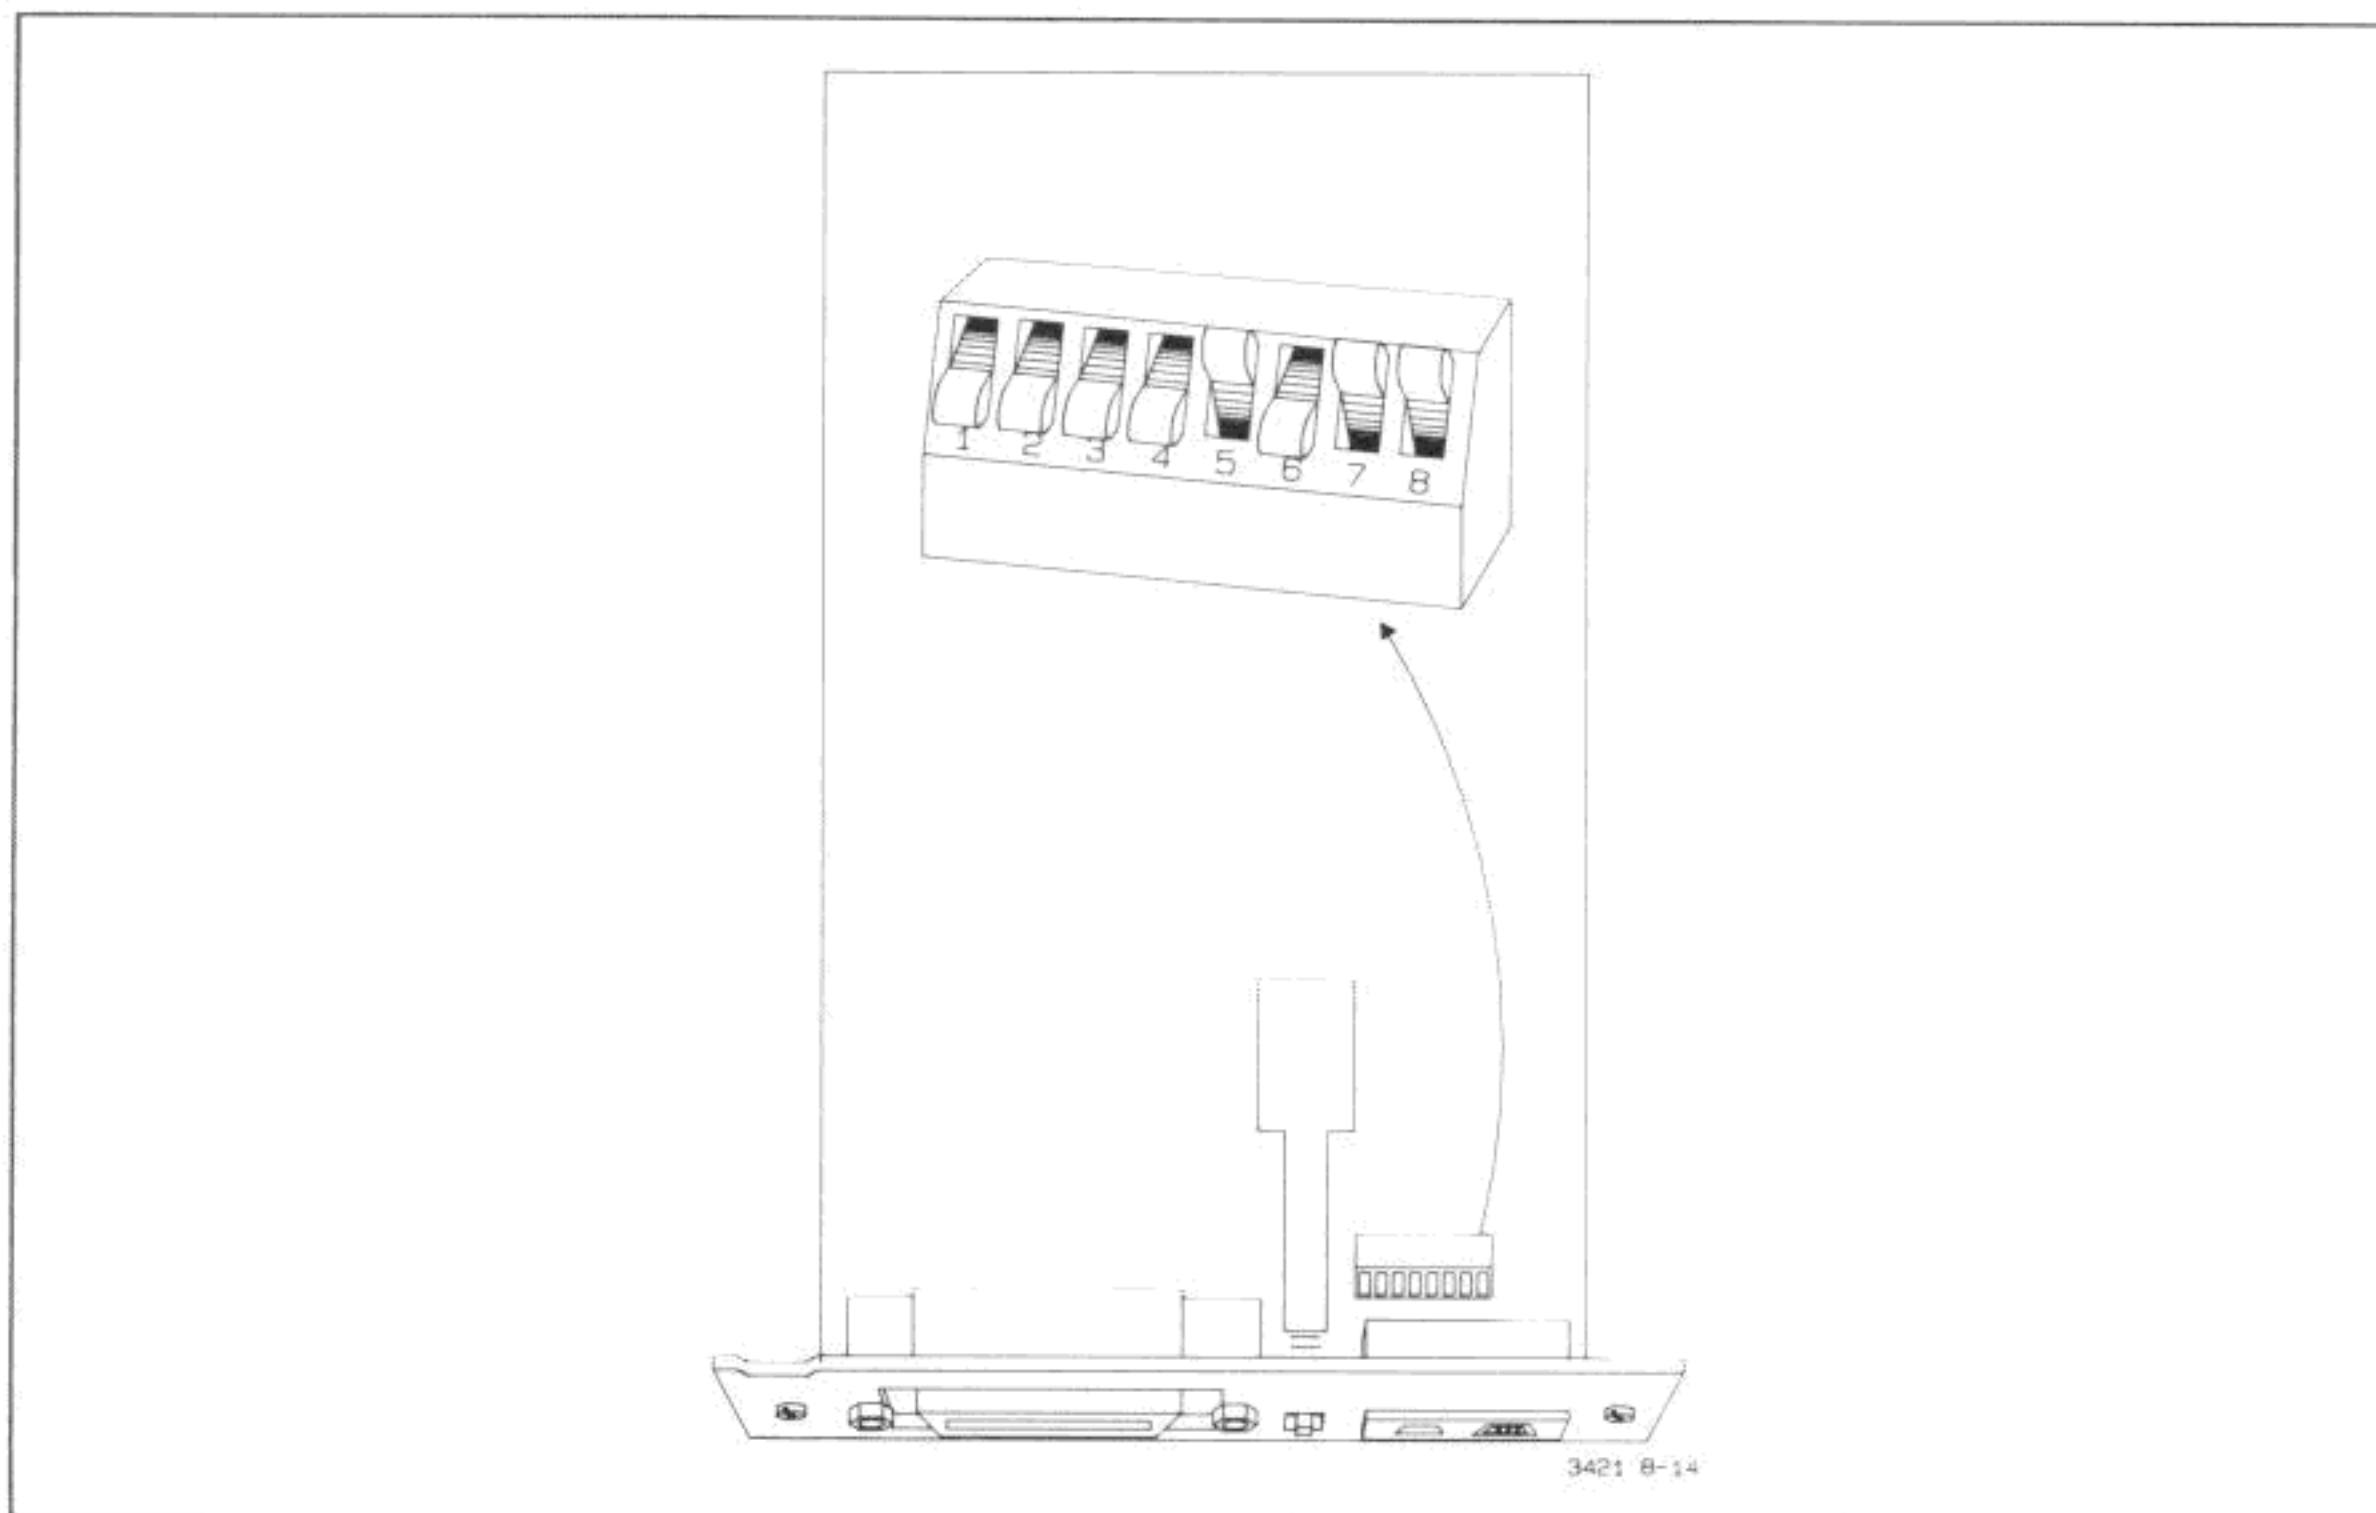

Figure 4-8-14. S802 Switch Settings for Signatures in Table 4-8-7
f. Set the S802 switch segments as shown in Figure 4-8-14 and check for the signatures listed in Table 4-8-7. If any signature is incorrect, refer to paragraph 4-8-71 to isolate the defective area. If all signatures are correct, proceed with step g.
Table 4-8-7. Signatures for Figure 4-8-14 Switch Settings (SA Test #1)